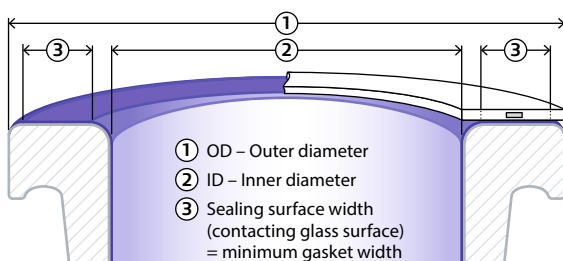

Figure 1: Determining gasket dimensions.
- As flange dimensions determine gasket width and length, obtain flange inside diameter (ID), outside diameter (OD) and sealing surface width before flange rounding (see Figure 1).